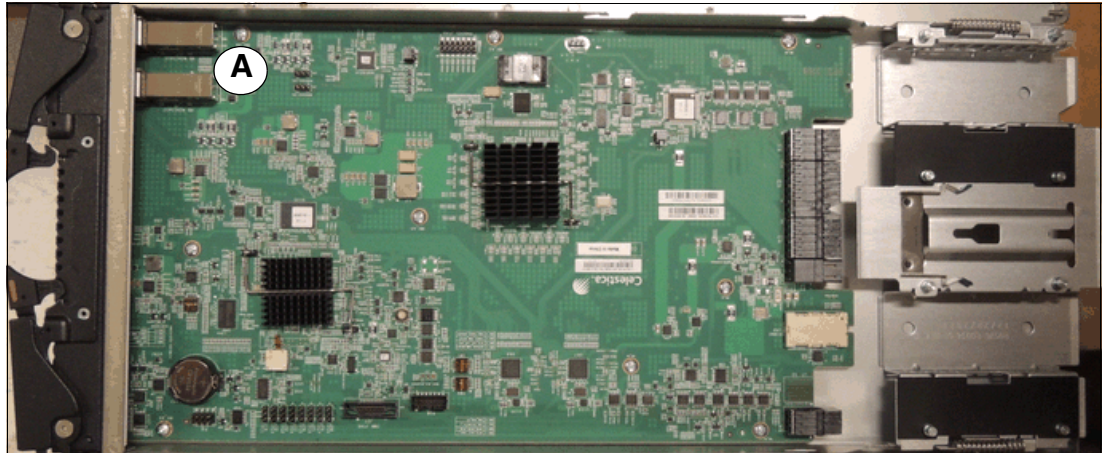
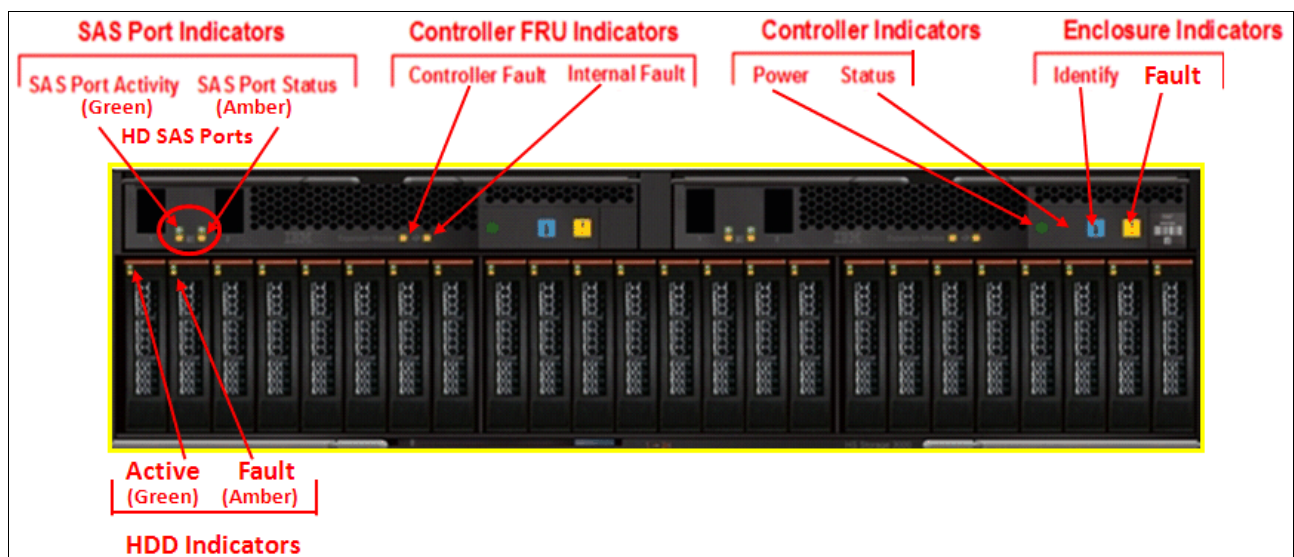

Figure 2-6 Components and board layout of the expansion canister
Figure 2-7 Expansion enclosure with connection ports and indicators
The expansion canister connects the expansion disks to the control canister using the SAS2 6 Gbps chain interface. This module also enables the daisy-chaining of additional expansions to be connected behind it to further expand the capacity of the system's storage. The expansion canister is also a Customer Replaceable Unit (CRU). Figure 2-6 on page 52 is a picture of the expansion canister with its cover removed.
As shown in Figure 2-6, the expansion canister does not contain a battery backup unit like the control canister does. It does have an additional SAS2 connection (A) on it to allow for the continuation of the chain to additional expansions. Figure 2-7 shows the SAS connection ports and the indicators on the front of the expansion enclosures.